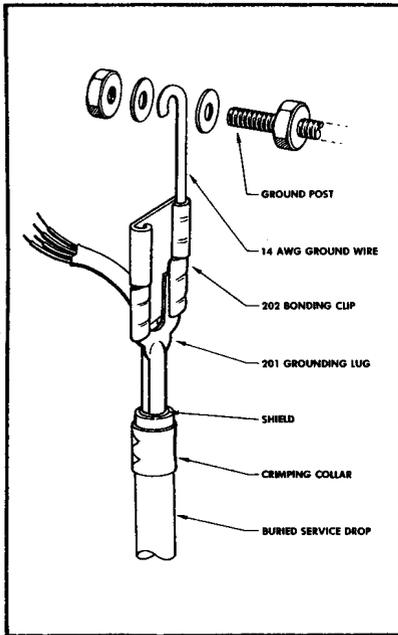

FIGURE 26.
6.09 Use the lug, 202 bonding clip and wire combination where the ground post will not accept the spade tip of the grounding lug, such as when multiple protectors 400, 502A1, and U-type are used. Place the 202 bonding clip over the lug, securing the clip with two crimps on each of the two edges, using wire cutters. Slip an end of a 14 AWG ground wire into one of the open edges of the bonding clip and make two crimps. Use the other end of the 14 AWG ground wire for terminating on the ground post of the protector. See Figure 26. The same method can be used for terminating the buried service drop in a pedestal or terminal.